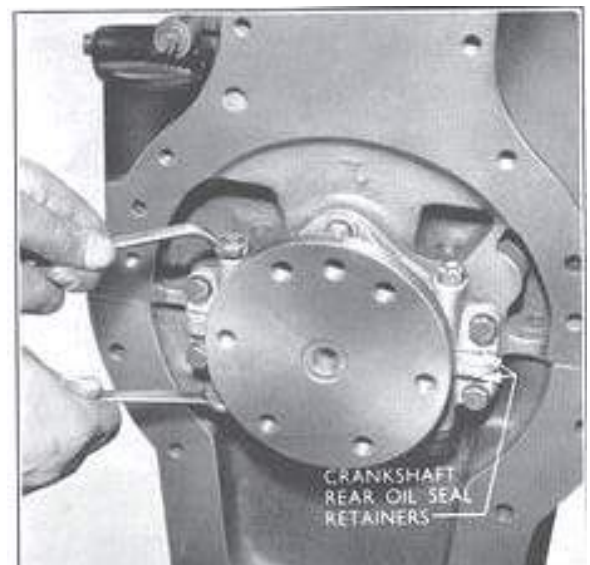

Fig. 21
4. Pack the new bearing with high melting point grease and locate it in the flywheel, with the haffle face outwards. Tap the bearing in using the adaptor (CPT.7061), and the universal handle (Tool No. 550) as shown in Fig. 21.
3. Refit the two long bolts and self-locking nuts and tighten fully (see Fig. 21).